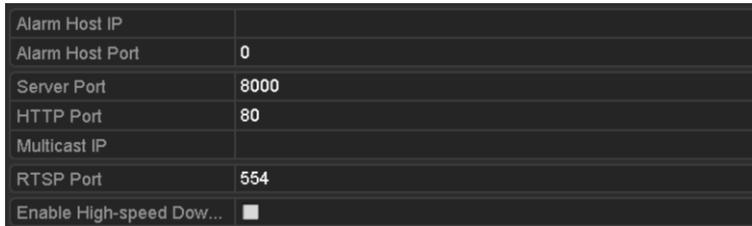

Figure 9. 15 More Settings Interface
2. Select the **More Settings** tab to enter the More Settings interface, as shown in Figure 9. 15.